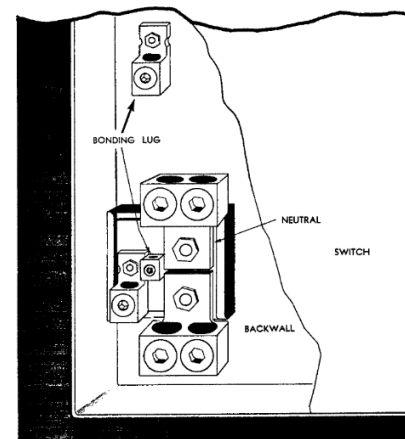

Fig. 2. Typical installation of TNI66 Neutral Kit
4. Install the #4-600MCM line and load lugs using nuts and lock washers provided (see Fig. 2).